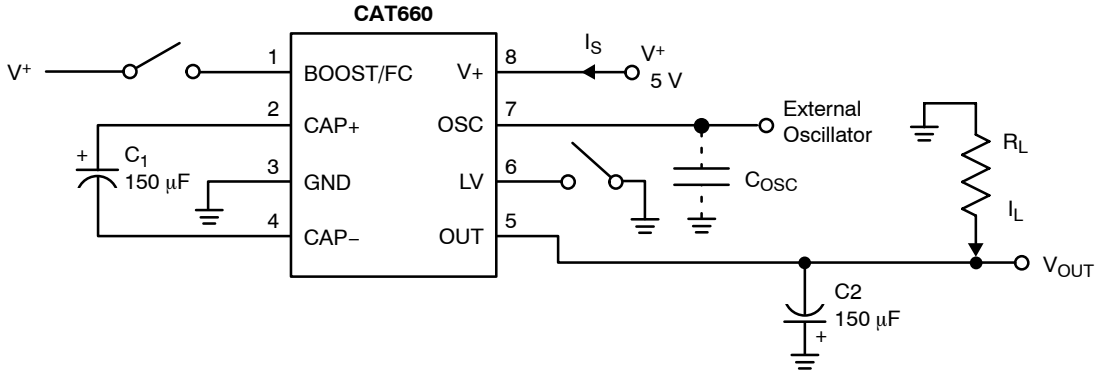

Figure 3. Test Circuit
**Table 3. ELECTRICAL CHARACTERISTICS** (V+ = 5 V, C1 = C2 = 150 μF, Boost/FC = Open, COSC = 0 pF, inverter mode with test circuit as shown in Figure 3 unless otherwise noted. Temperature is over operating ambient temperature range unless otherwise noted.)
- In Figure 3, test circuit capacitors C1 and C2 are 150 μF and have 0.2 Ω maximum ESR. Higher ESR levels may reduce efficiency and output voltage.
(Typical characteristic curves are generated using the test circuit in Figure 3. Inverter test conditions are:  $V_+ = 5\text{ V}$ ,  $LV = \text{GND}$ ,  $\text{BOOST/FC} = \text{Open}$  and  $T_A = 25^\circ\text{C}$  unless otherwise indicated. Note that the charge-pump frequency is one-half the oscillator frequency.)